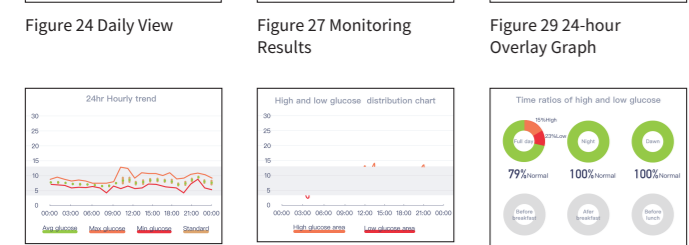

Figure 27 Monitoring Results
- Monitoring results as shown in Figure 27.